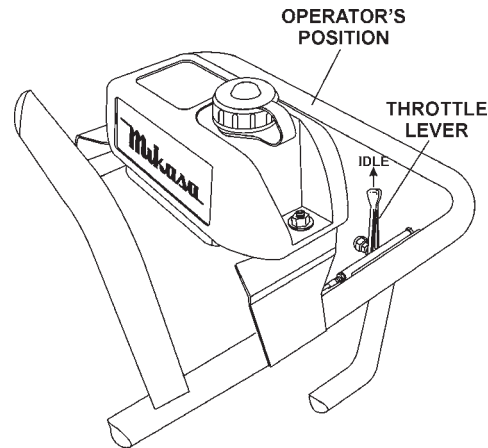

Figure 12. Throttle Lever (Idle)
1. Move throttle lever quickly from the **FULL OPEN** to **IDLE** position (Figure 12) and run the engine for three minutes at low speed. After the engine **cools**, turn the engine start/stop switch to the **"STOP"** position (Figure 8) until engine comes to a complete stop.